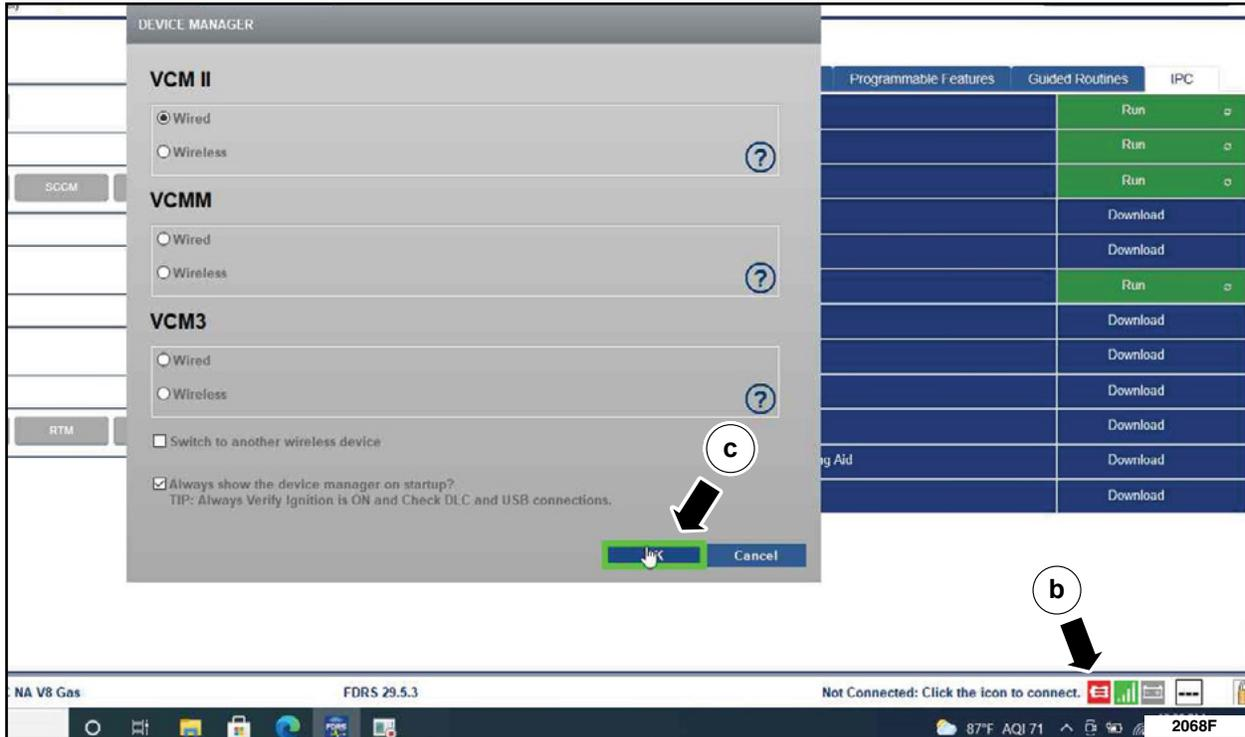

FIGURE 6
6. From the list on the Left Hand (LH) side of the screen, select the IPC.
7. From the list on the Right Hand (RH) side of the screen, locate IPC - Instrument Panel Cluster (IPC) Programmable Module Installation and click "Download".
8. Connect the Vehicle Communication Module II (VCM II). See Figure 6.